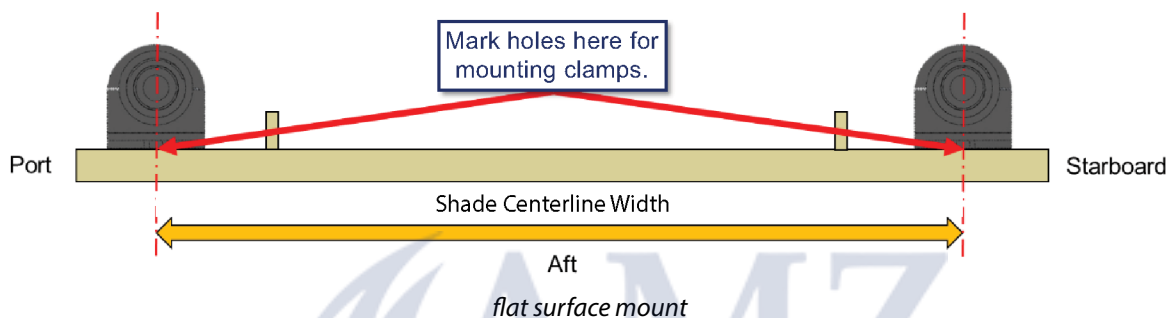

Fig.9
5. If the hardtop is flat (Fig.9), the mounting hole locations are the same as the shade's center width for either a topside or underside mount (Fig.9).
- For flat surface mount, drill straight down (Fig.9, VIEW A).